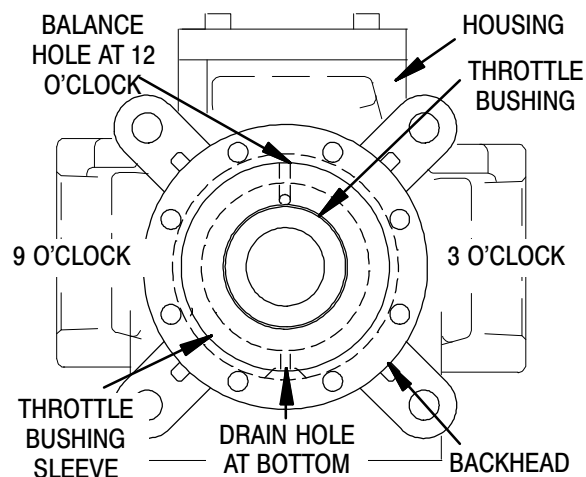

Figure E-4. Housing/Backhead Alignment
Position the balance hole as shown in Figure E-4, and secure the backhead assembly (06) to the housing (04) with the capscrews (B).